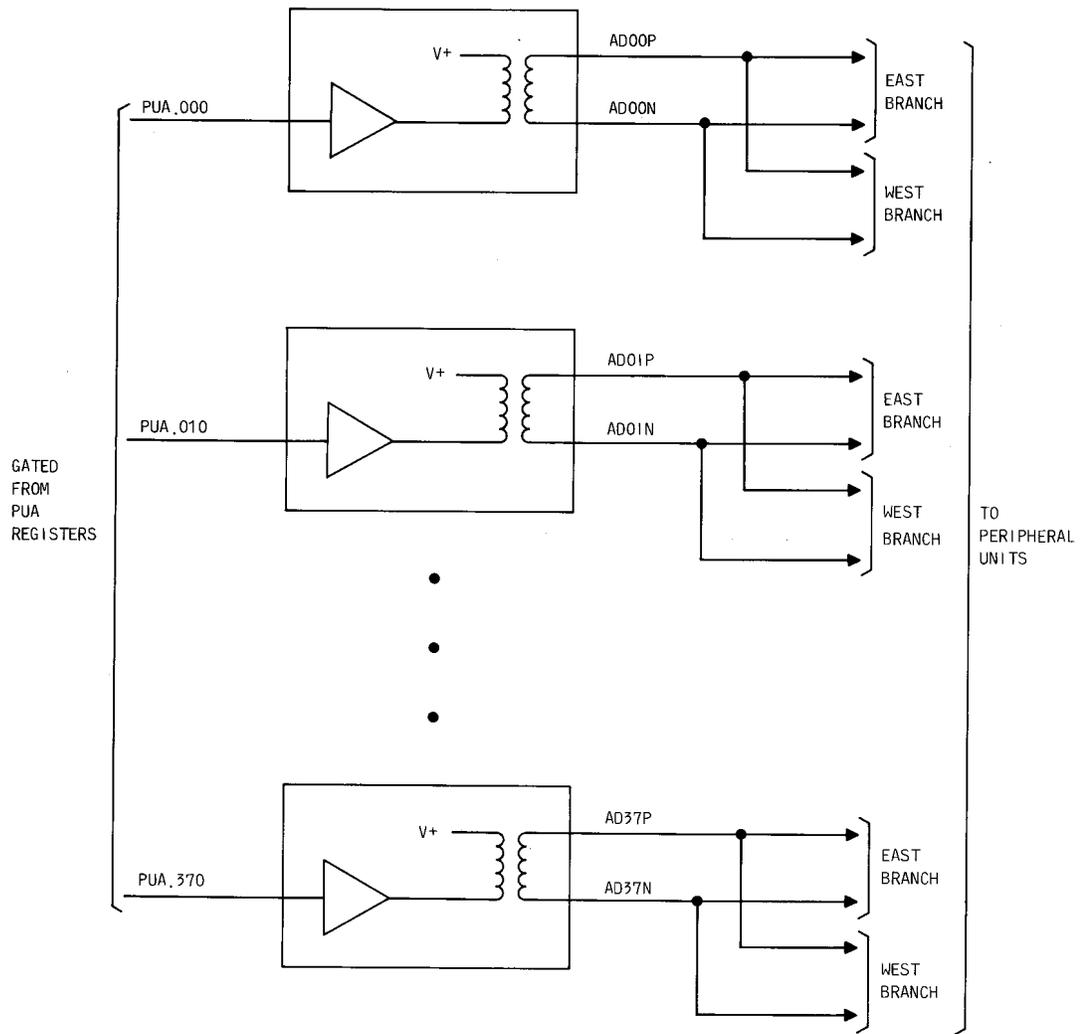

Fig. 6—PUA Bus Drivers
**3.10** The peripheral unit address (PUA) bus consists of 38 pairs of balanced ac 100-ohm transmission lines over which the peripheral units receive data from the 3A CC via the I/O control circuit. Each of the 38 PUA bus drivers drive two 100-ohm lines in parallel, one of these lines is designated as the east branch of the PUA bus and the other the west branch (Fig. 6).